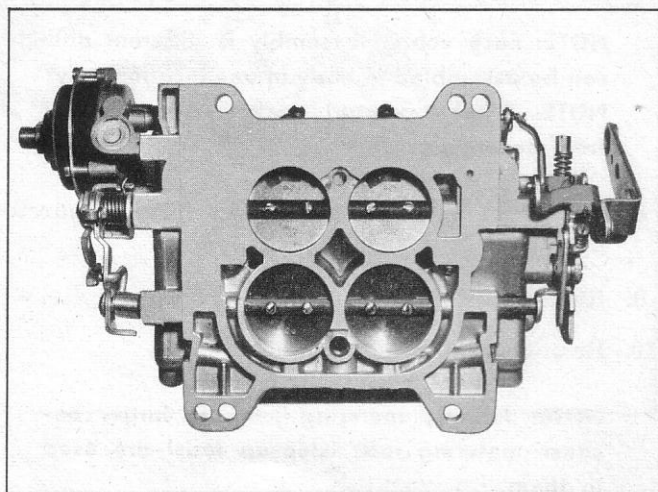

Fig. 111—Throttle Valve Position
4. Install throttle valves in shafts with part number identification toward bottom of flange and secure with new screws (fig. 111).